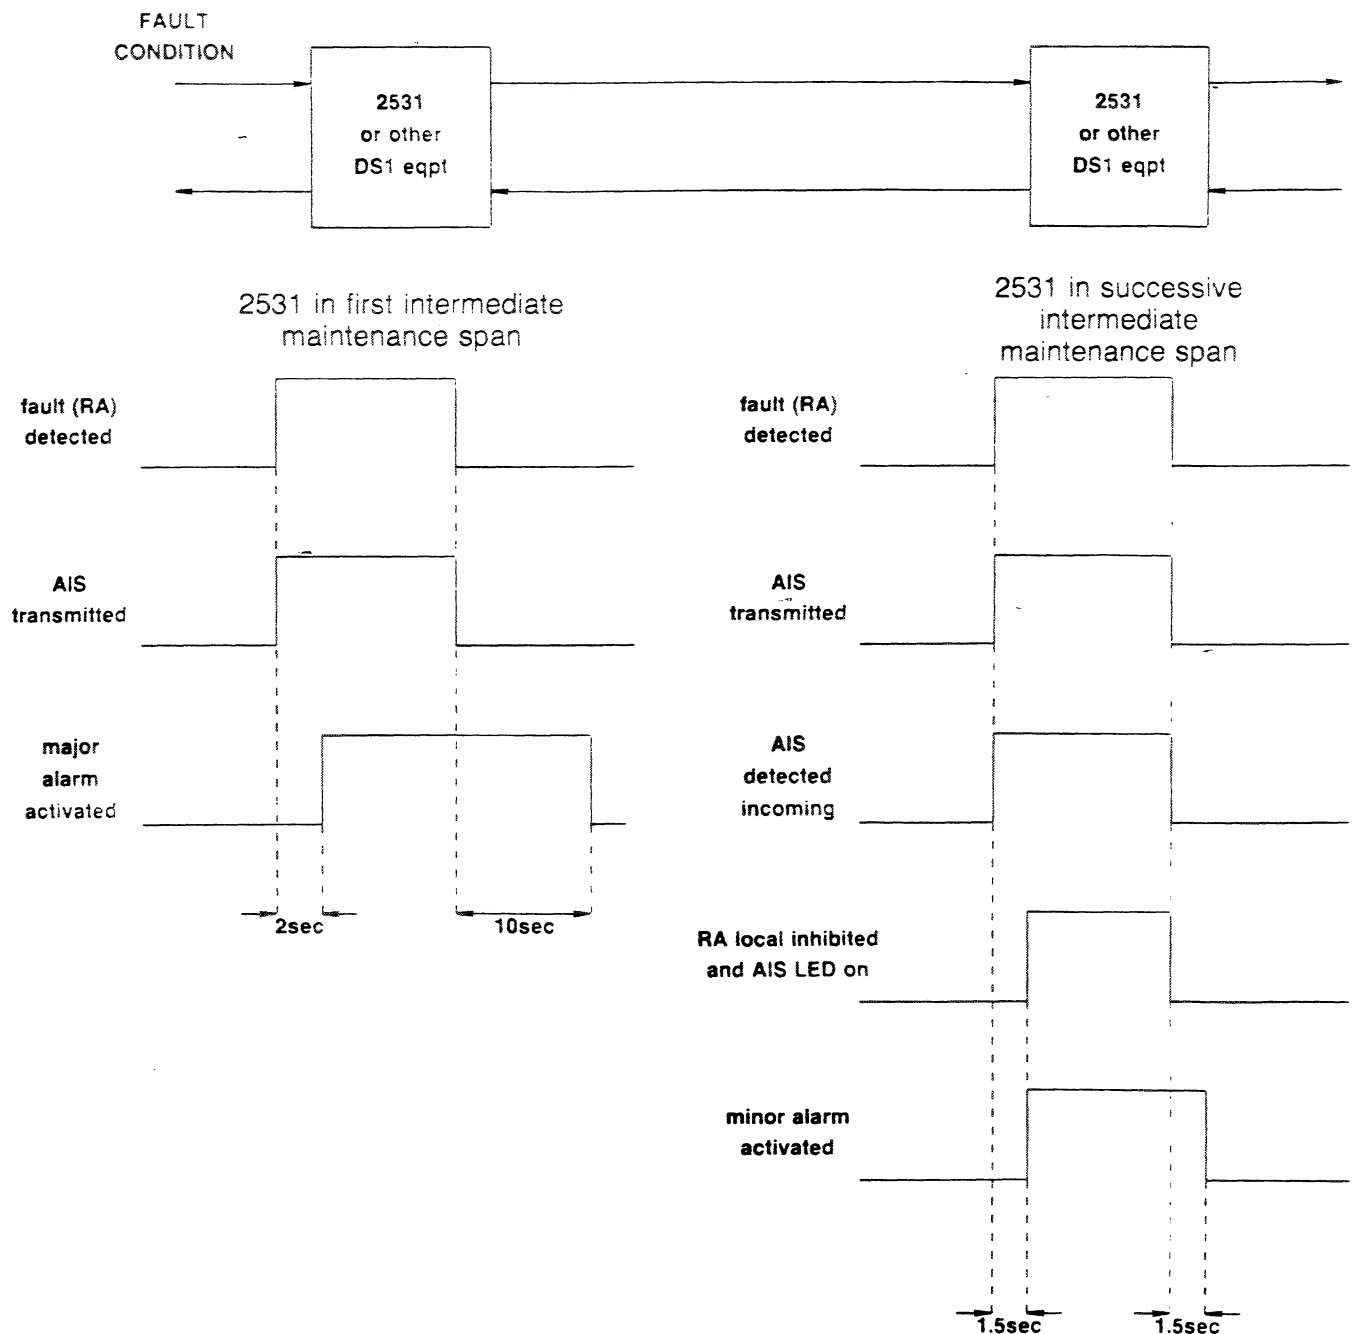

Figure 11. 2531/2531A Alarm Response Timing
- 6.07 As per Bellcore Technical Advisory TA-TSY-000191, the 2531/2531A follows the timing sequence for alarm indication as shown in figure 11 and as explained below. This example uses a fault condition originating on the upstream send path, but can also apply to the receive path.
- 6.08 In figure 11, when a 2531/2531A (in this case, that in the first intermediate maintenance span) loses synchronization at either PCM input, a red alarm (*RA local*) is generated immediately, and an alarm indication signal (*AIS*) is transmitted at the respective output. Two seconds later, a major alarm is generated. When synchronization is restored, both the red alarm and *AIS* transmission immediately cease. Ten seconds after restoration, the major alarm is retired. Successive intermittent synchronization losses of less than two seconds duration may be integrated resulting in a major alarm. The integration algorithm uses a 5:1 attack/decay time ratio until two seconds have accumulated.